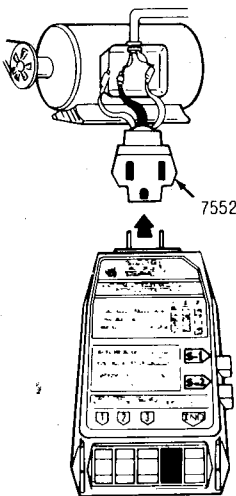

Figure 3
- C. Hardwired Equipment (no outlets). You will need the Model 7552 Hardwired Equipment Probe (Fig. 3).